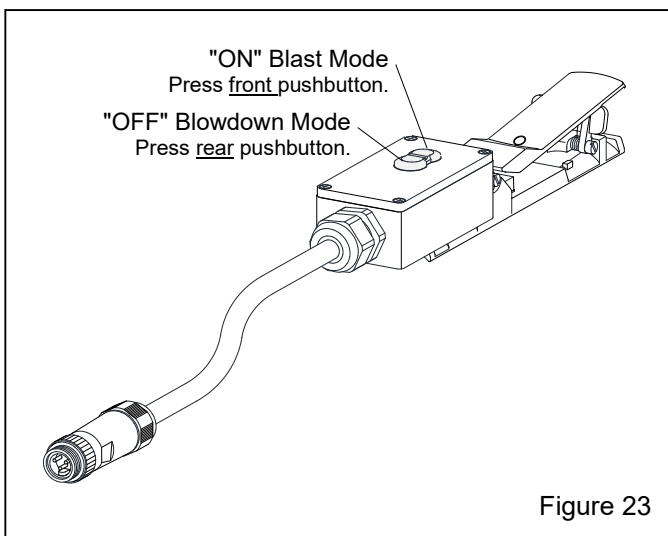

Figure 23
4.11.3 Electric control: The ACS switch is wired into the box at the back of the GW Electric RLX Control Handle, as shown in Figure 23. The switch may be pressed ON or OFF at any time, but will not operate the metering valve unless the control handle is pressed.